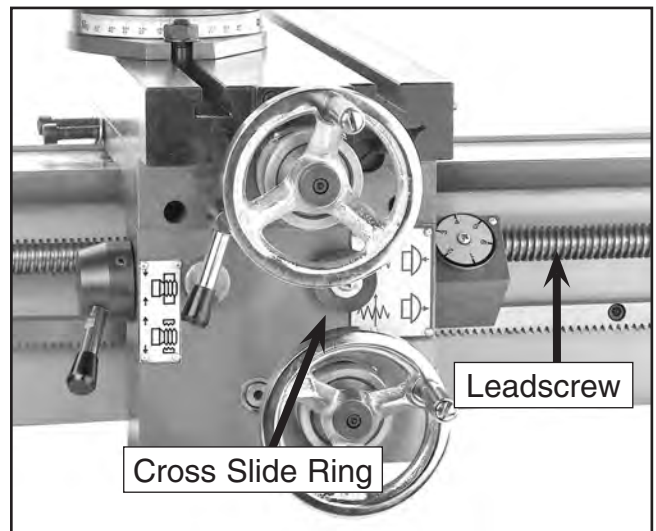

Figure 41. Apron controls.
- Once the proper gears have been installed, (see **Changing Gears** on **Page 39**) and the feed rate selected, power to the apron and cross slide is provided by the leadscrew, shown in **Figure 41**.
- In the case of the cross slide, a ring is pulled out, as shown in **Figure 41**.